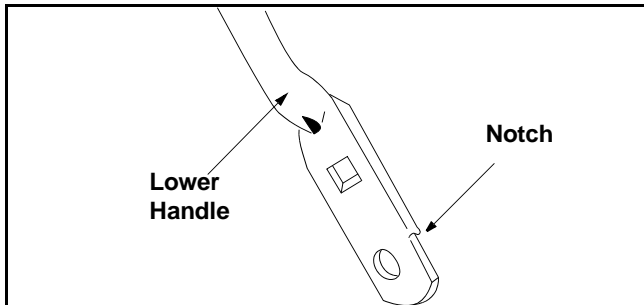

Figure 17
5. Turn the lower handle around so the notch on the bottom of the lower handle is facing forward as shown in Figure 17 . Reassemble, placing the bottom holes in the handle over the weld pins in the handle mounting bracket.